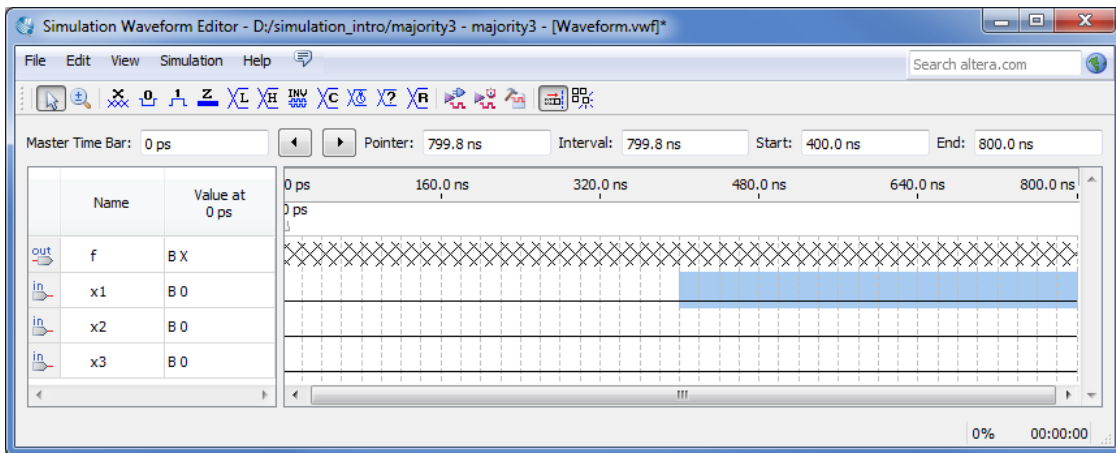
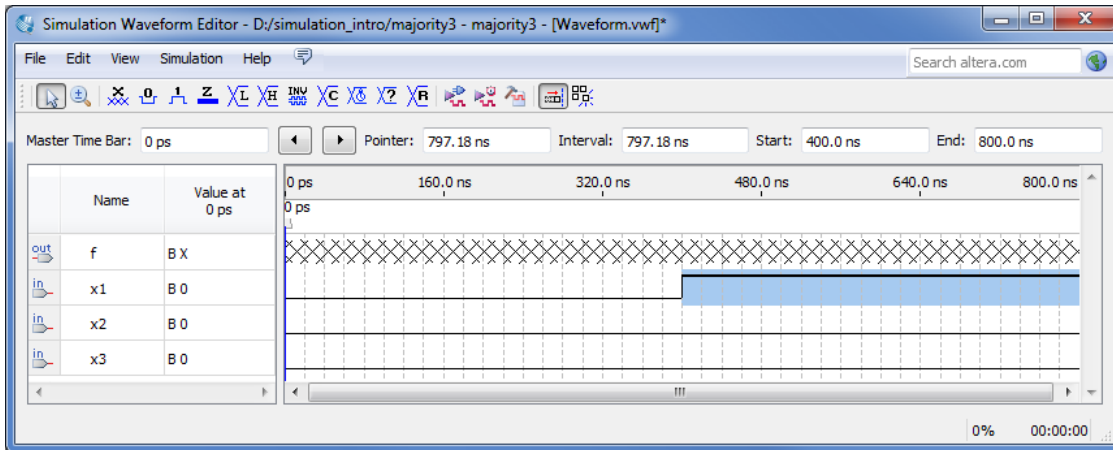

Figure 7. Selection of a time interval.
Figure 8. Drawing the waveform for $x1$
Input waveforms can be drawn in different ways. The most straightforward way is to indicate a specific time range and specify the value of a signal. To illustrate this approach, click the mouse on the *x1* waveform near the 400-ns point and then drag the mouse to the 800-ns point. The selected time interval will be highlighted in blue, as depicted in Figure 7. Change the value of the waveform to 1 by clicking on the Forcing High (1) icon , as illustrated in Figure 8.